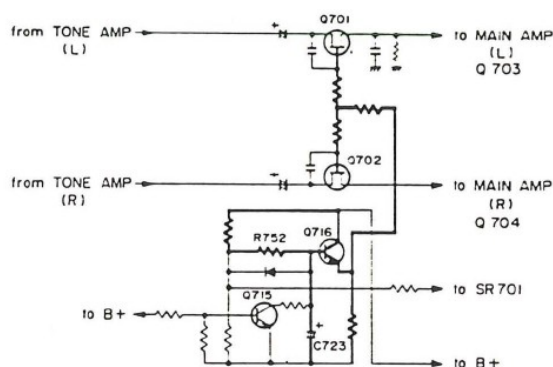

Figure 2
- When POWER Switch is off, C723 will be discharged by Q715 as it turns on; then Q716, Q701 and Q702 will turn off. (Refer to Figure 2.)